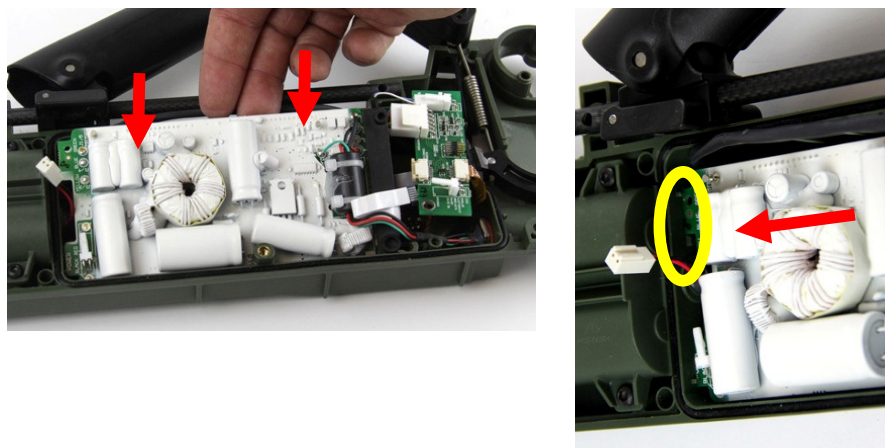

Figure 40: Installing the Main PCB
- Lower the main PCB into the detector, pushing the bottom side (away from the handle) down and into place first. Gently position the main PCB flat inside the detector. Figure 40.